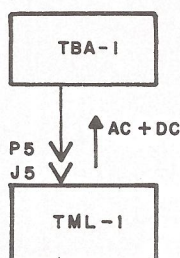

Fig. 1
- Where Model TBA-1 is installed together with a Model TML-1 in the same cabinet, the necessary —17 vdc and 19 to 30 vac are obtained directly from Model TML-1. Plug the 4-pin connector P5 from the Model TBA-1 chassis into the 4-pin socket J5 on the Model TML-1 chassis (see fig. 1).